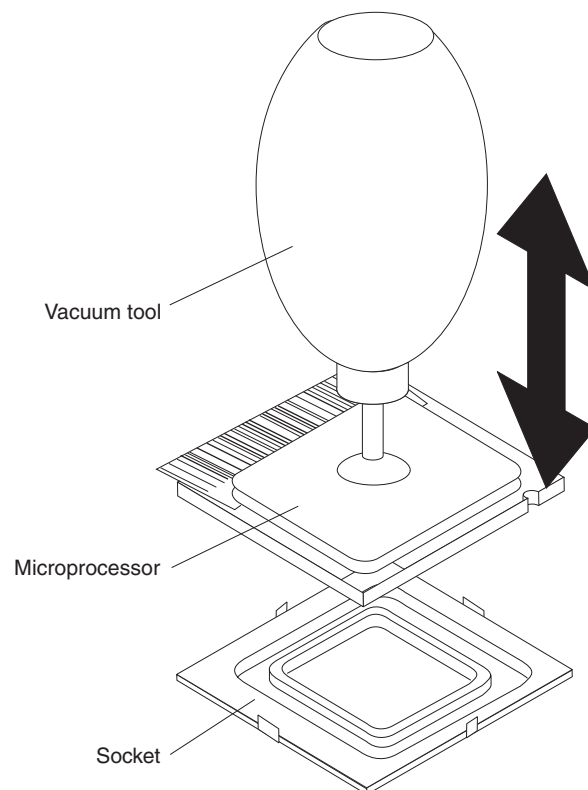

Figure 48. Installing the microprocessor
2. Install the microprocessor using the vacuum tool and the following procedure (see Figure 48).